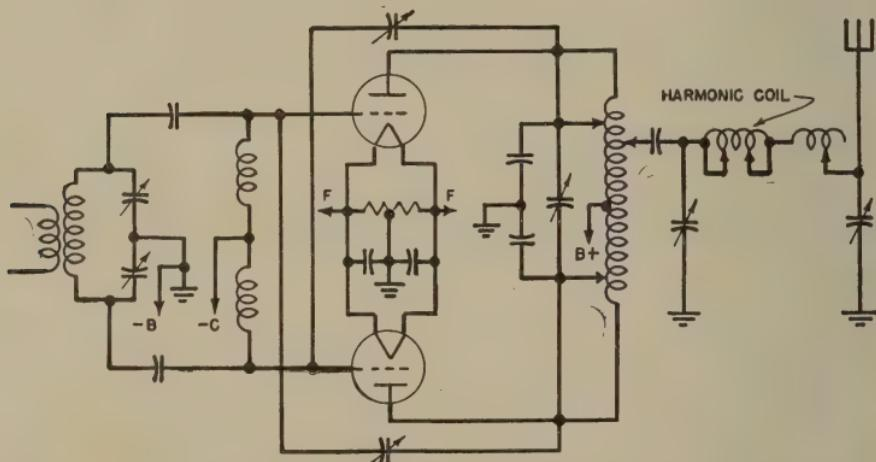

FIG. 4-10.—Capacitive coupling and harmonic suppression arrangement.
*Ans.* Figure 4-10 illustrates a capacitive coupling system.